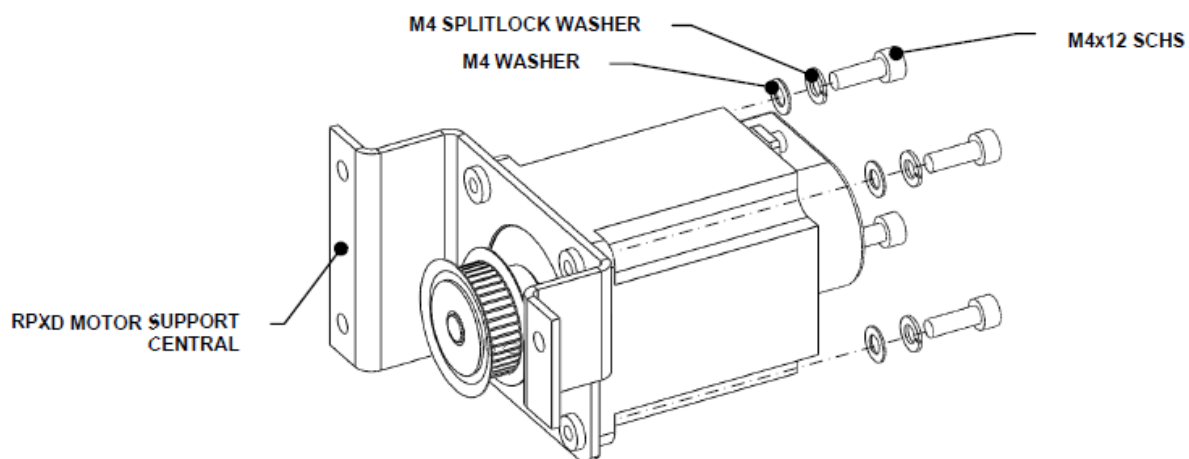

Figure Q-20: Mounting the Motor on the Support
9. Mount the Motor on the Reagent Pipettor X Drive Motor Support Central (and fix it with four M4x12 Socket Cap Head Screws, four M4 SplitLock Washers and four M4 Washers (309300400) (Figure Q-20). Note the encoder's orientation